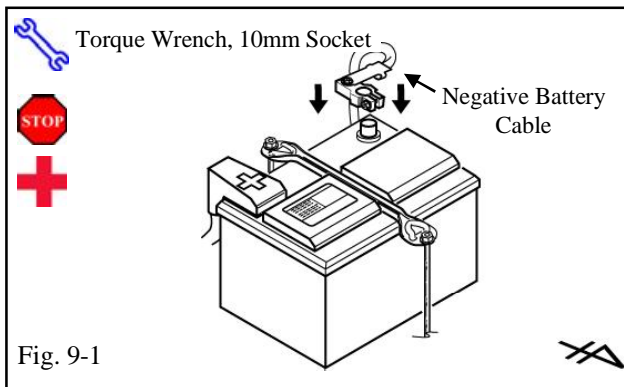

Fig. 9-1
- (a) Position the Negative Battery Cable at the original factory position. (Fig. 9-1)
- (1) Tighten the Nut to 36 in•lbf (4.7 N•m)